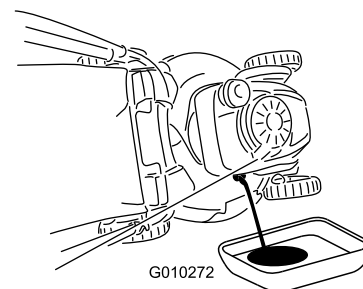

Figure 43
4. Tip the machine onto its side (so that the air filter is up) to drain the used oil from the oil-fill tube (Figure 43).